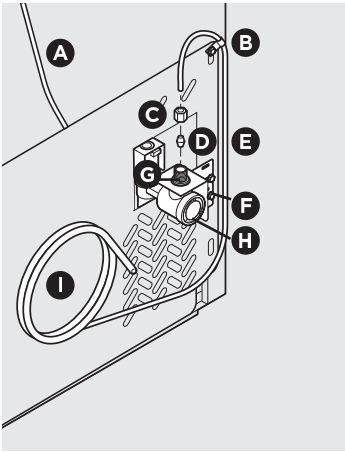

Figure 17
4. If you use copper tubing - Slide the brass compression nut, and then the ferrule (sleeve) onto the water supply line. Push the water supply line into the water valve inlet as far as it will go ($\frac{1}{4}$ " / 6.4 mm). Slide the ferrule (sleeve) into the valve inlet and finger tighten the compression nut onto the valve. Tighten another half turn with a wrench; DO NOT overtighten. See Figure 17.
6. With the steel clamp and the screw, secure the water supply line (copper tubing only) to the rear panel of refrigerator as shown in Figure 17.
7. Coil the excess water supply line (copper tubing only), about $2\frac{1}{2}$ turns, behind refrigerator as shown in Figure 17 and the arrange coils so they do not vibrate or wear against any other surface.